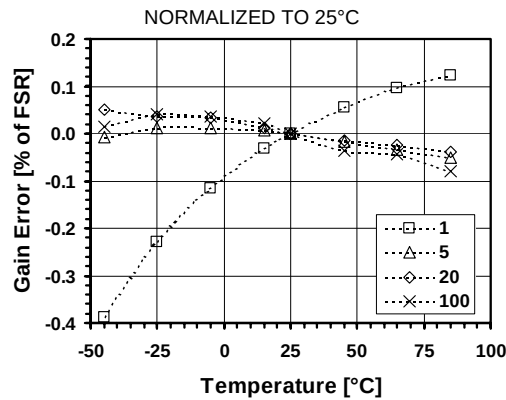

Figure 16-19 Gain error vs. temperature for different PGA gains
- Gain error is defined as the amount of deviation between the ideal (theoretical) transfer function and the measured transfer function (with the offset error removed). (See Figure 16-19)
Figure 16-19 shows gain error drift vs. temperature for different PGA gains. The curves are expressed in % of Full-Scale Range (FSR) normalized to 25°C.